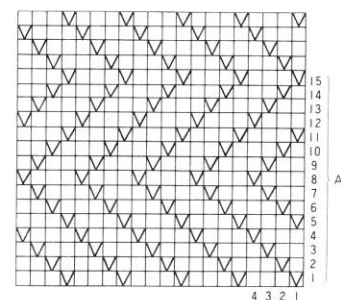

Fig.152
- d) Following the pattern chart (Fig.152), knit upto 8th row moving the holding formation to each left adjacent needle per each row.